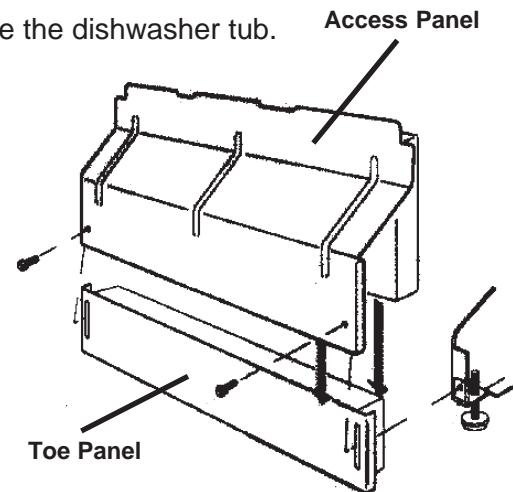

Fig. 3-16
1. Remove the access and toe panels from underneath the dishwasher door by removing the two (2) screws securing it to the dishwasher frame. (Fig. 3-16)